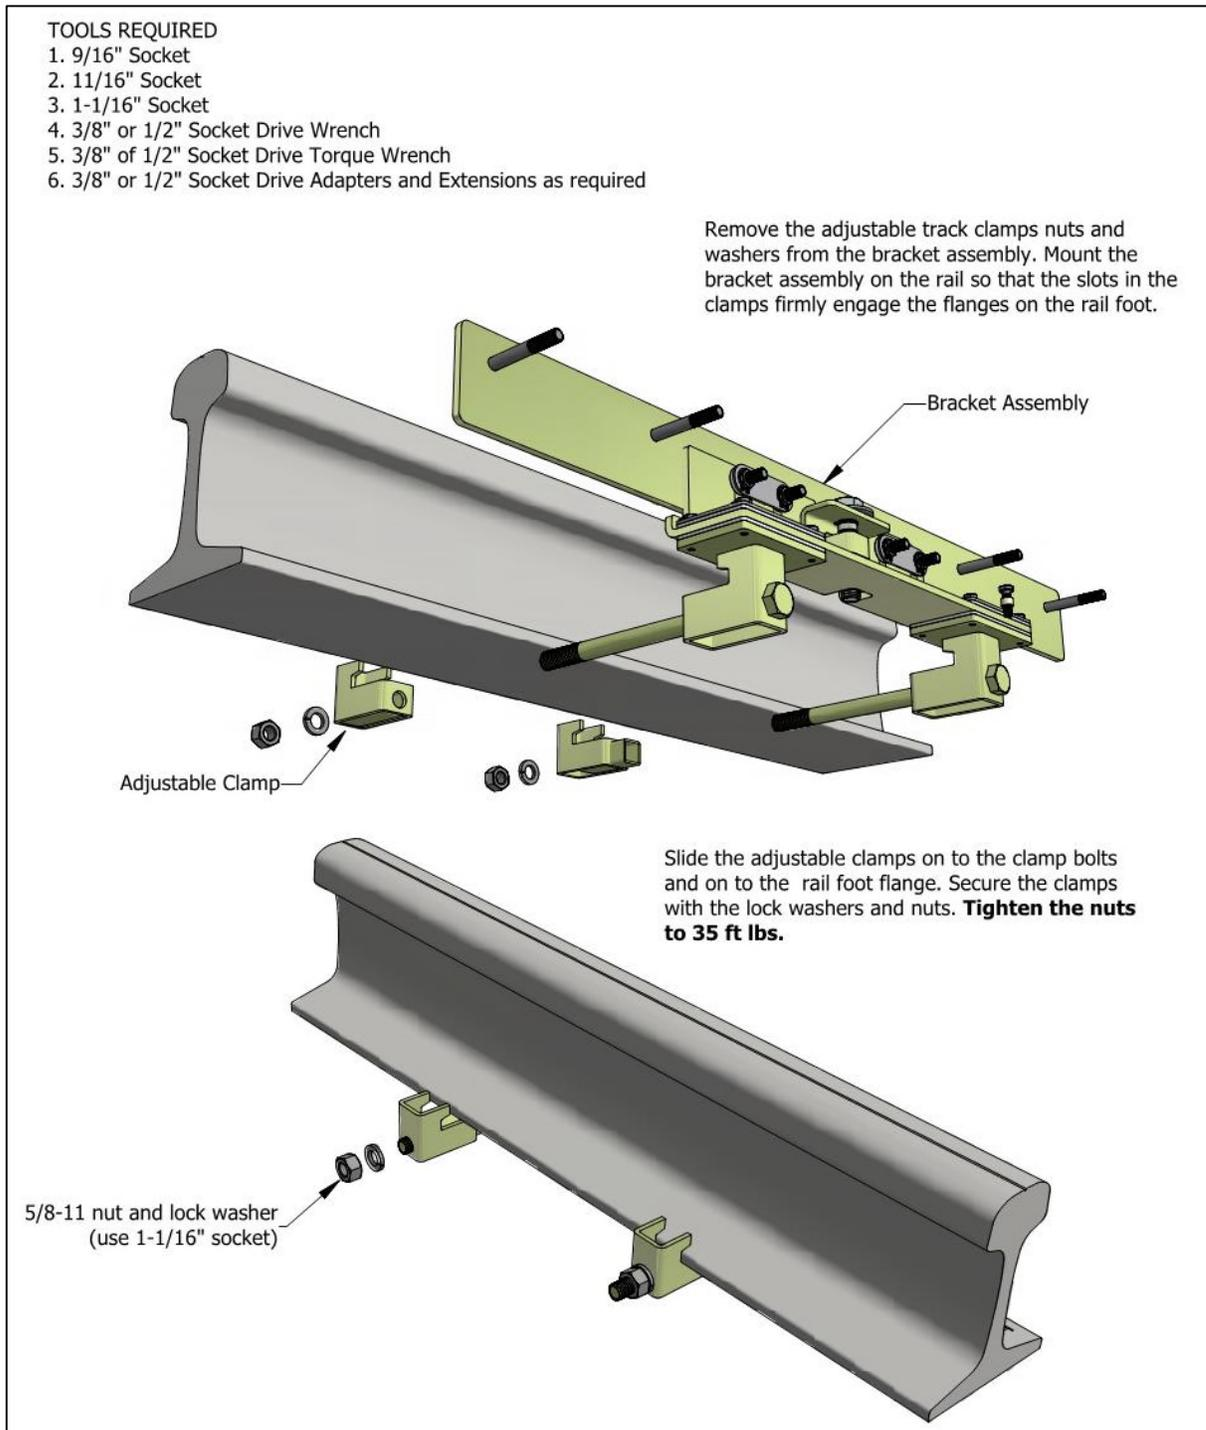

Figure 1
- 3 Per figure 1, mount the clamp bracket against the gauge side of the rail. Tighten the nuts to 35 ft lbs.